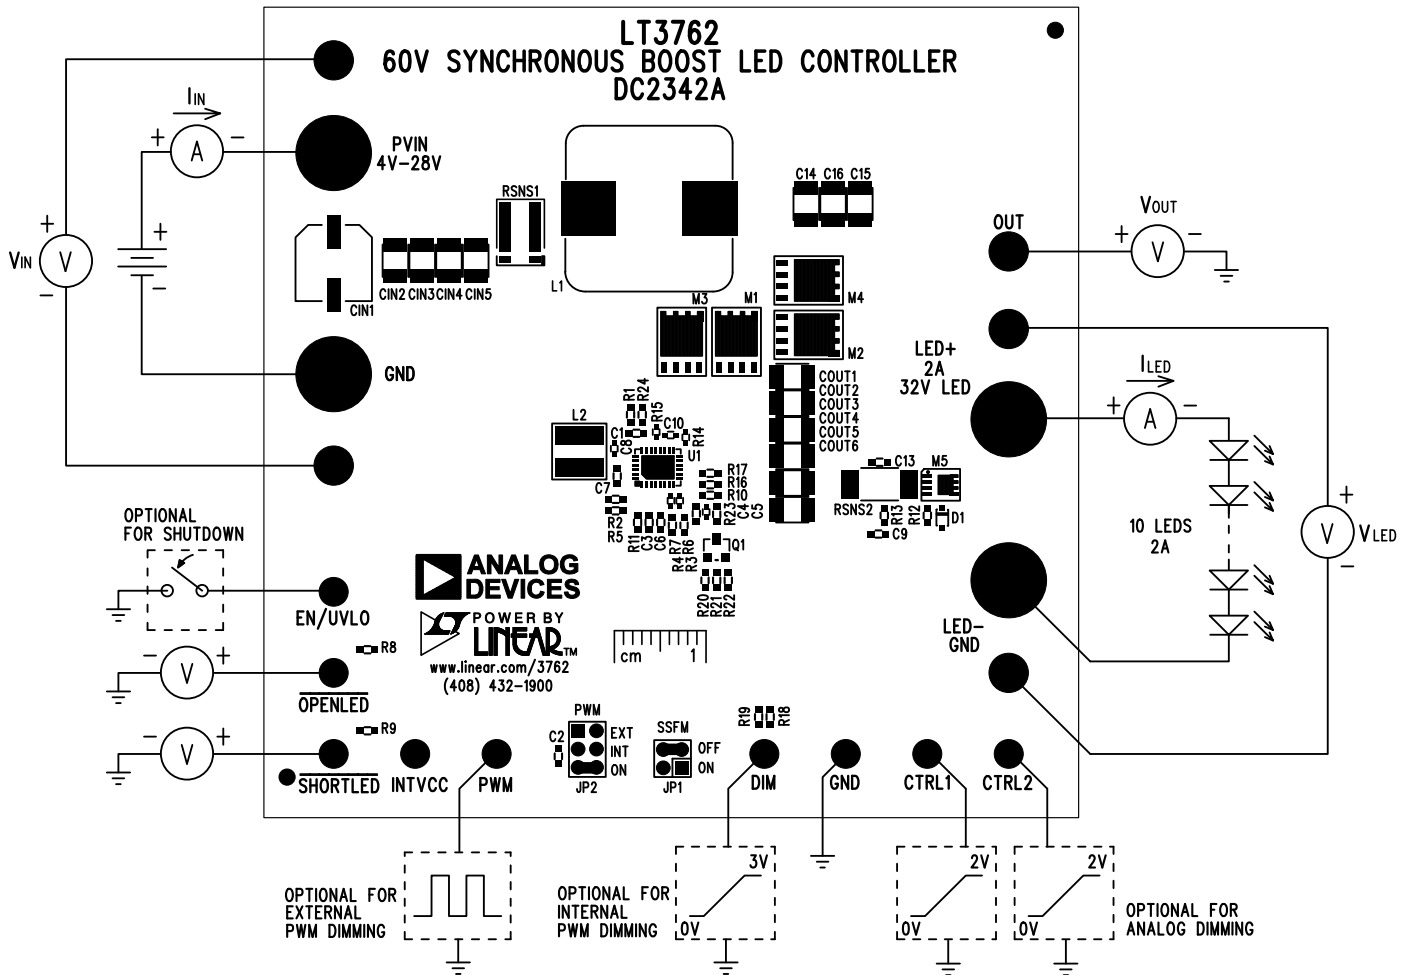

Figure 1. Test Procedure Setup Drawing for DC2342A
- With power off, connect a string of LEDs that will run with forward voltage less than or equal to 32V (at 2A) to the LED⁺ and LED⁻ banana jacks on the PCB as shown in Figure 1.